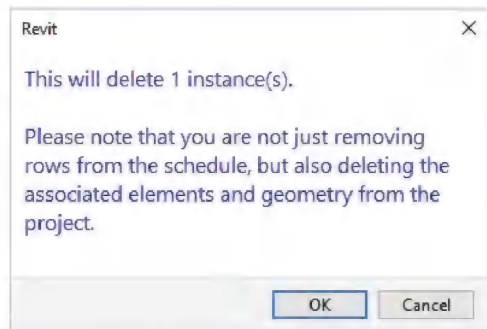

FIGURE 12-2.8 Revit alert message
You will get an alert. Revit is telling you that the actual door will be deleted from the project model (Figure 12-2.8).
12. Click **OK** to delete the door (Figure 12-2.8).